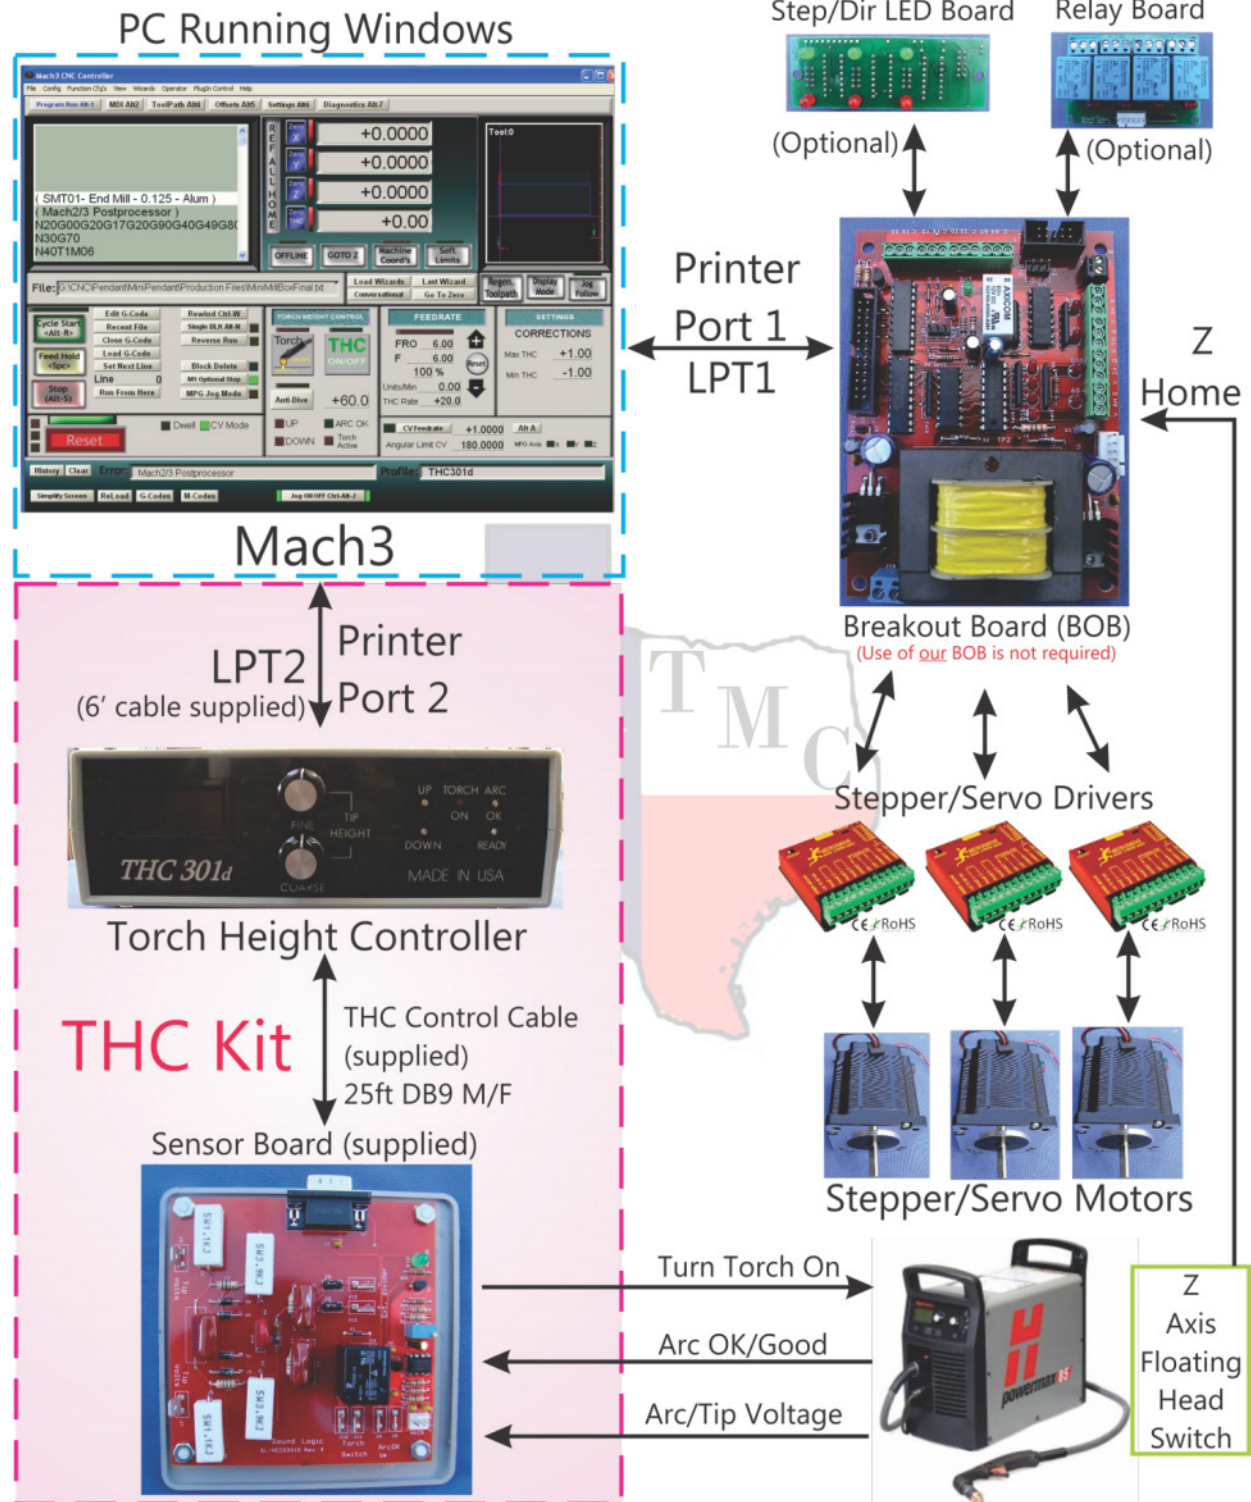

Figure 1 – Block Diagram of the CNC Plasma System with THC
- You have all of the components of the THC Test Set (see Fig 1 photo below)